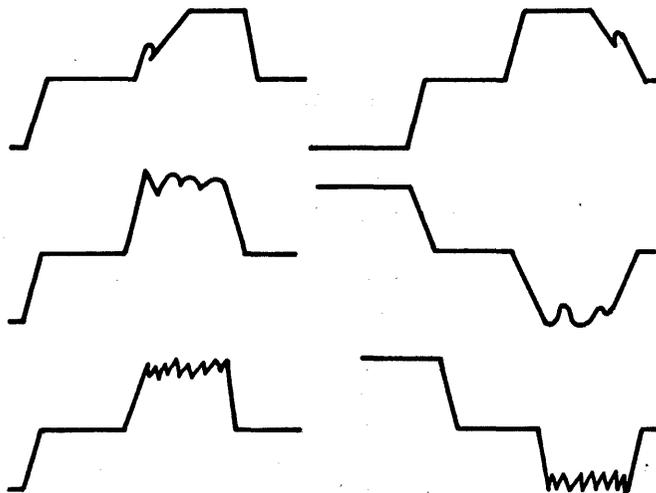

Figure 4-6. Incorrect Waveforms
5. Incorrect waveforms are shown in figure 4-6.